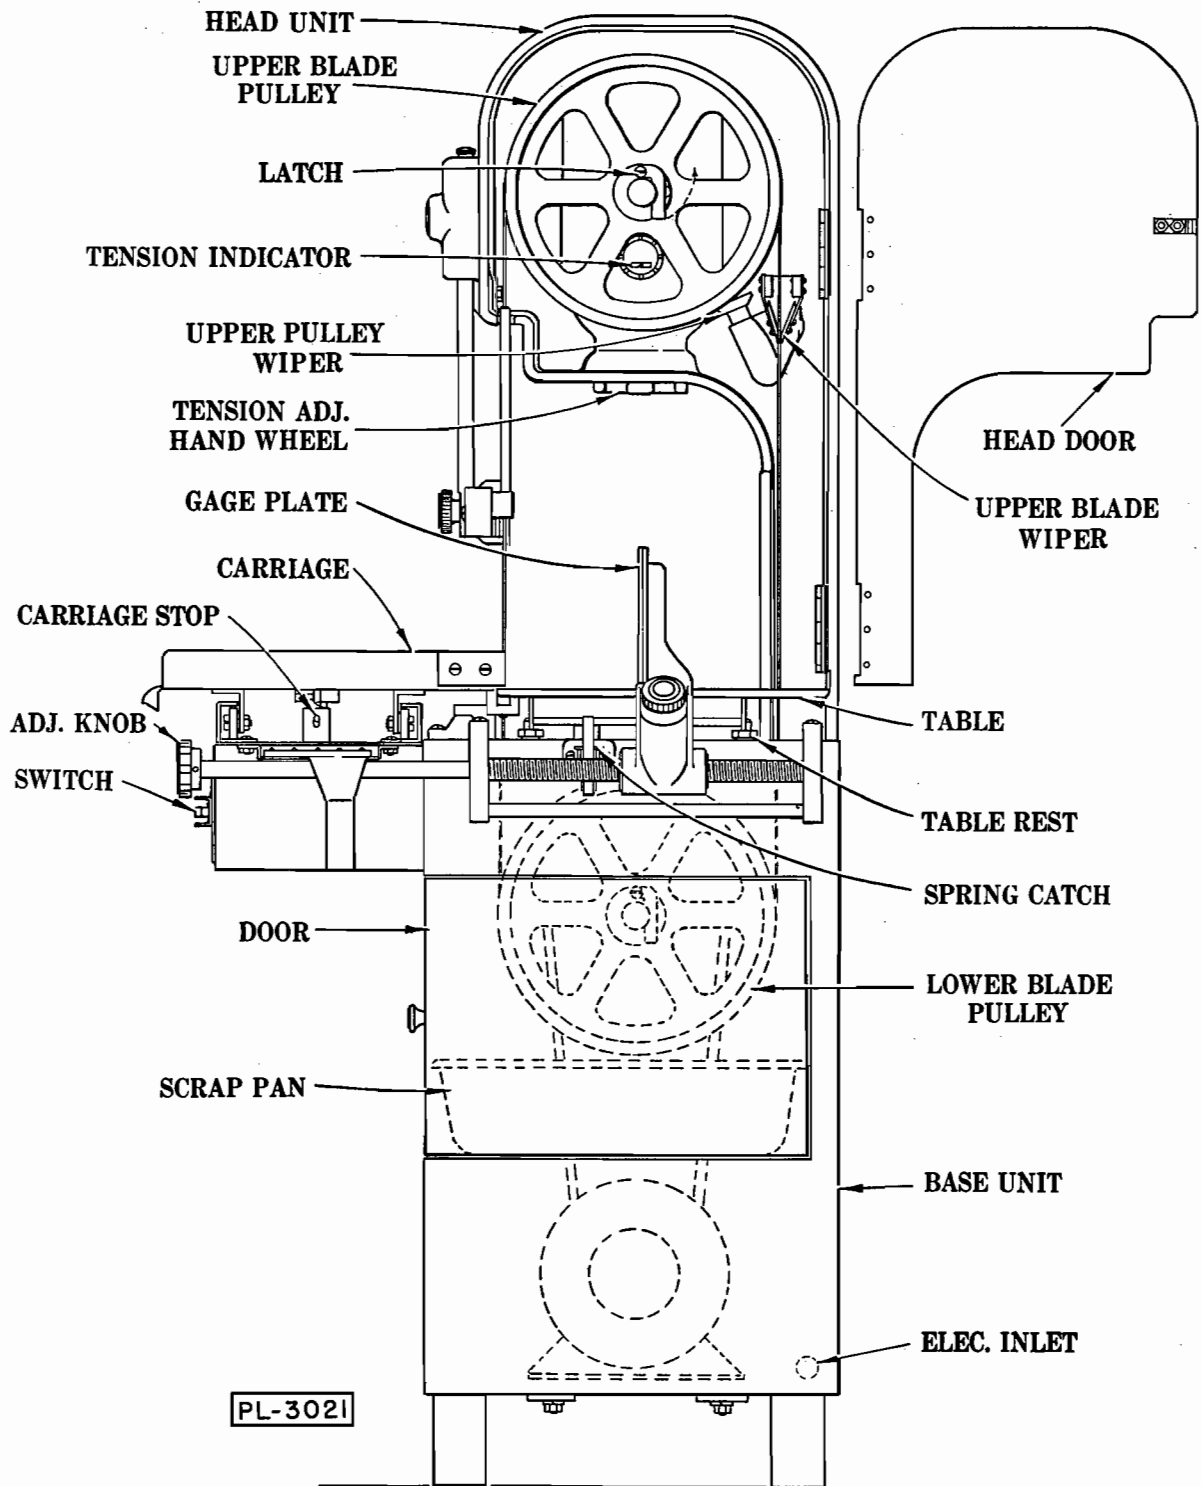
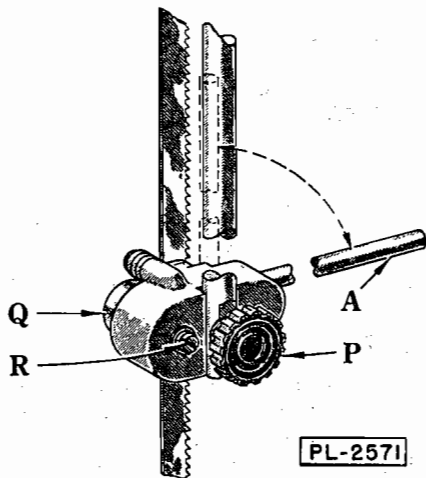
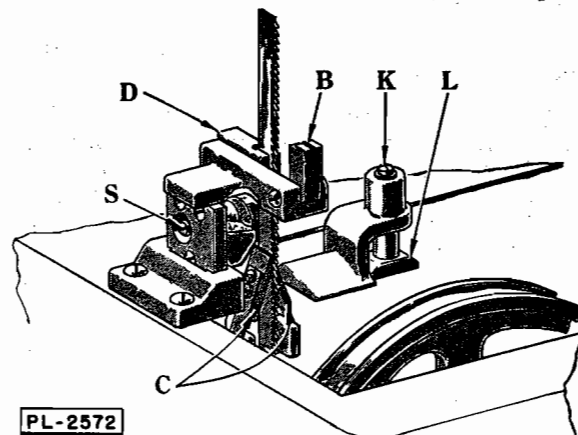
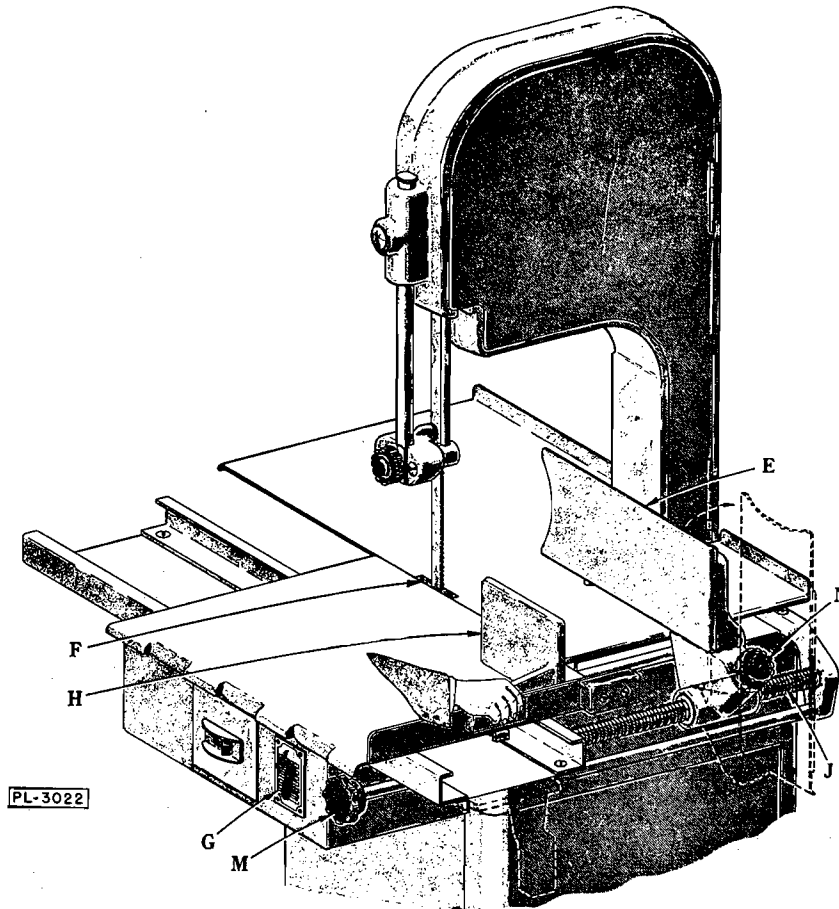

FIGURE 1
FIGURE 2
FIGURE 3
FIGURE 4
(1) Move the machine to the location where it is to be used. Place a spirit level on top of the base unit and adjust the bolts in the legs so that the base unit is level from side to side, and back to back.
(2) Lower the upper blade pulley by giving the tension adjustment hand wheel (fig. 1) a few turns to the left, open door and swing the blade guard A (fig. 2) down to a horizontal position. Lift out lower wiper unit (fig. 3) and place the saw blade over the upper and lower blade pulleys (fig. 1). The teeth must point to the right and downward when viewed from the front as shown in fig. 3. If they do not point downward, remove the blade, twist inside out and replace it on the saw. Turn the tension adjustment hand wheel (fig. 1) to the right until the tension indicator reads "2". Give the upper pulley a few turns by hand so that the blade centers itself on the pulleys, then turn the tension adjustment handle slowly to the right until the indicator registers between "3" and "4". This is the best operating tension for the blade.
(3) Move the blade guard A (fig. 2) to the vertical position and close head door.
(4) Put in the lower wiper unit (fig. 3). Before sliding it into place, swing up the bakelite guard B and see that the saw blade is between the two wipers C and in the guide slot of steel block D. After sliding the unit into place, close down the bakelite guard B.
(5) To put on the table, swing gage plate E (fig. 4) to vertical position, clear of table area. Locate table into position by the locating block F (fig. 4), being sure the support angles on the underside of the table are inside the locating pins of the four table rests (fig. 1) on the base. Then lock in place by closing the spring catches (fig. 1) at each end.
(6) The carriage may be put on from either side. While rolling it into place, hold down the carriage stop (fig. 1). When the stop is released, it will prevent the carriage from rolling off.
Before connecting to the power line, check the data on the name plate G (fig. 4) to make sure that the motor is correct for your electric service. Make your installation connection from the power line directly to the switch. In order to avoid having conduit at the front of the machine, it is recommended that flexible (or rigid) conduit be connected through the electric inlet hole in the base (fig. 1). The motor and switch are connected at the factory.
(1) **UPPER GUIDE ASSEMBLY** (fig. 2). Keep as low as the size of the work permits.
(2) **UPPER GUARD A** (fig. 2). Keep in vertical position.
(4) **BUTT-END PUSHER H** (fig. 4). Use this device as described in paragraph VI and it will be unnecessary to hold your hand near the running saw blade.
(5) **GAGE PLATE**. The end of the gage plate E (fig. 4) is shaped to give maximum support and protection at this critical point, and at the same time, facilitate the taking off of slices.
(2) Apply a few drops of oil occasionally to the gage plate rack J (fig. 4) and work the gage plate assembly back and forth a few times.
(3) **IMPORTANT:** After each cleaning, use tasteless oil to lubricate the plunger of the upper pulley wiper (fig. 1) and the plunger K of the lower wiper L (fig. 3). Actuate these wipers to be sure they are lubricated properly, and will operate freely.
(4) Once a year, have a Hobart Service Man look over the motor and main bearing carriers.
When cutting slices of uniform thickness, set the gage plate at the desired point with adjusting knob M (fig. 4) on the scale etched on the table. If the gage plate is not needed and interferes with the work, it may be pushed out of the way. Lift the release knob N (fig. 4) and slide the gage plate on back to the end of rack J (fig. 4). The gage plate may be swung to a vertical position at any setting along the rack without lifting the release knob.
To slice short ends, use the pusher plate H (fig. 4) to hold the meat against the gage plate. A groove in the pusher slips over and slides along the up-turned edge of the carriage. Hold the pusher with your right hand as shown in fig. 4. Your hand will then always be a safe distance from the saw blade and the stop will prevent the pusher from going too far. When not using the pusher plate, keep it stored beneath the carriage track as shown in fig. 4, where provision has been made for holding it.
(1) Roll carriage to extreme right or left. This exposes the carriage stop. Depress carriage stop and roll off stainless steel carriage.
(2) Rotate gage plate to vertical position.
(3) Release spring catches and remove stainless steel table.
(4) Remove hand knob, open door and lift out upper blade wiper. Clean unit, then lubricate with **TASTELESS OIL.**
(5) Swing lower saw blade guard B (fig. 3) up and lift out lower wiper assembly. Clean unit thoroughly and **LUBRICATE WITH TASTELESS OIL.**
(6) Remove Scrap pan.
(7) Release blade tension by turning tension adjusting hand wheel to the left. Open head door and swing the upper blade guard down to horizontal position. Remove saw blade.
(8) To remove upper guide unit, loosen hand knob P (fig. 2) and remove unit. Clean, **LUBRICATE WITH TASTELESS OIL,** and replace.
the upper blade pulley (fig. 1) by hand to center the blade, and then turn the hand wheel until the indicator registers between "3" and "4". Now move the guard A (fig. 2) to the vertical position and insert the lower wiper unit. Make sure the upper blade wipers (fig. 1) are on both sides of blade.
At the back edge of the saw blade in the upper guide and the lower wiper unit are ball bearing rollers which will take the cutting thrust. When the saw is running without load, the blade should not touch the rollers; the clearance being approx. 1/32 inch. Always check this after changing blades. Rollers should be adjusted to suit any variation in blade widths. IMPORTANT: Adjust the upper roller Q by turning the screw R (fig. 2) and the lower roller by turning screw S (fig. 3).